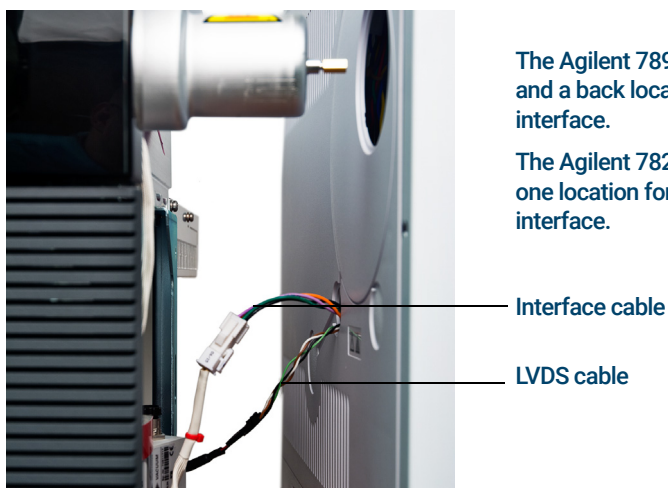

Figure 4. Separating and connecting the MSD and GC
- 5 Move the MSD away from the GC until you have access to the GC/MSD interface cable. (See Figure 4.)